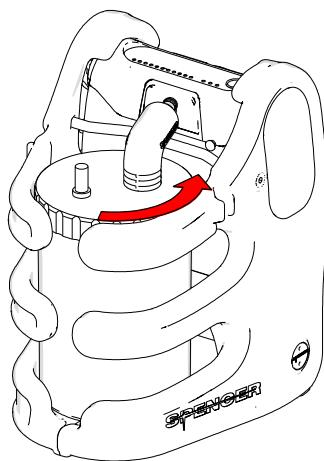

Fig. 10
2. Connect the assembly filter group/canister to the suction unit by turning the canister and the assembly filter to facilitate insertion (fig.10 e 11).
- desired level of vacuum can be viewed on the LED display (fig. 10).